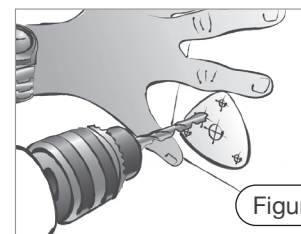

Figure 5
Step 6 - Using the included template on the reverse side of this page, drill a 5/16" hole into the transom for the sensor wire (Figure 5). Screw the pipe nipple into the actuator upper hinge (NO Teflon tape or pipe dope). Tighten the nipple hand tight. Then, with vise grips, tighten two full turns ... NO MORE. Cover end of the pipe nipple with masking tape. If you have the short through-transom fitting, using a 7/16" wrench, screw it in (NO Teflon tape or pipe dope) until the fitting is snug; the shoulder of the fitting will just touch the plastic of the upper hinge.